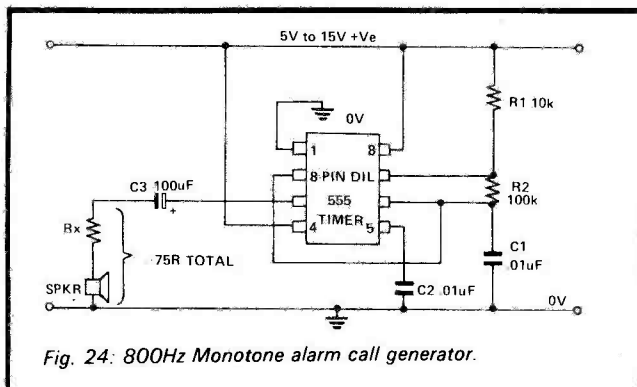

Fig. 24: 800Hz Monotone alarm call generator.
Fig 24 shows the connections for making an 800Hz monotone alarm-call generator. The circuit can be used with any supply in the range 5 to 15 volts, and with any speaker impedance. Note, however, that R_x must be wired in series with speakers having impedance less than 75Ω , and must be chosen to give a total series impedance of at least 75Ω , to keep the peak speaker currents within the 200mA driving constraints of the 555. The available alarm output power of the circuit depends on the speaker impedance and supply voltage
Fig. 24 a, b, c, d: Monotone alarm activated by dark (2), light (b), under-temperature (c), or over-temperature (d).